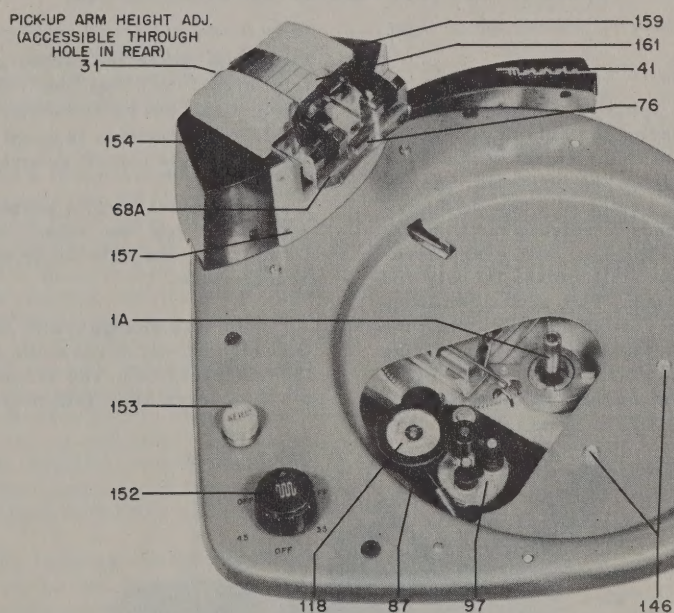

FIGURE 3. TOP VIEW OF RECORD CHANGER WITH TURNTABLE REMOVED
Refer to Figures 3, 4, 5, 6, 7 and 9 for the location of the various parts described in this section.
2. The height adjustment screw (31) is accessible thru a hole in the rear of the record support housing (154) (see Figure 3).
3. Turn the height adjustment screw (31) clockwise to raise the arm, or counterclockwise to lower the arm, as required.